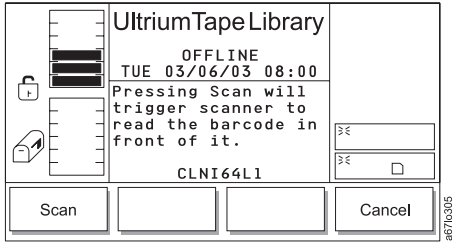

Figure 4-155. Bar Code Label Dialog
6. Press the button below the **Scan** softkey. The bar code reader scans the cartridge that is currently in front of it. The Bar Code Label Dialog displays the cartridge's VOLSER (see Figure 4-155 on page 4-90). Ensure that the VOLSER on the operator panel matches the VOLSER on the cartridge.